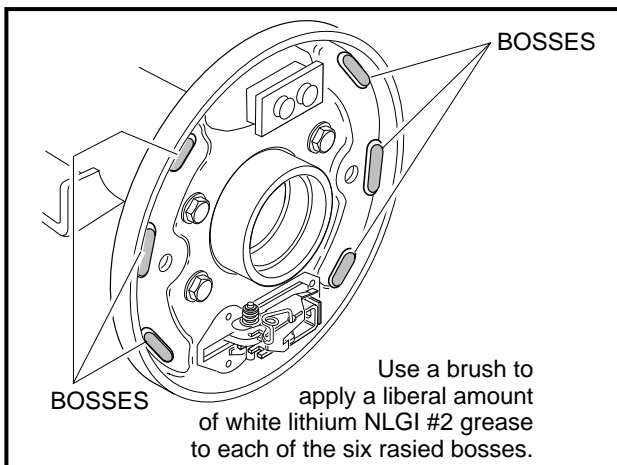

Figure 6-9 Grease Raised Bosses
4. Use a small brush to carefully apply a liberal amount of white lithium NLGI #2 grease (Dow Corning BR2-Plus or equivalent) on each of the six raised bosses on brake backing plate (**Figure 6-9, Page 6-5**). **See preceding WARNING.**